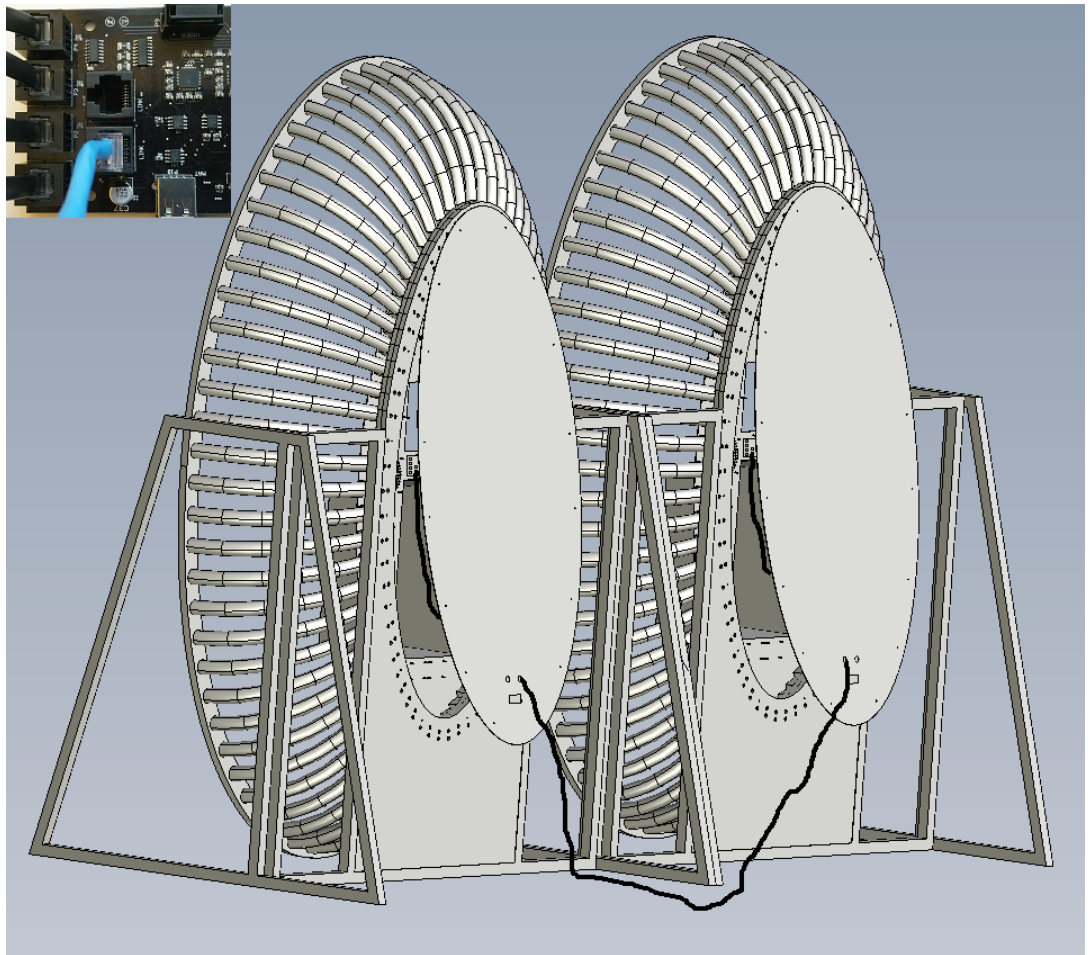

Figure 2
6. If a single stand alone game is being installed, skip to step 7. If two games are to be linked together: Remove all but the top two screws on the back panels. Loosen the top two screws on both games a couple of turns. Then feed one supplied linking cable (Cat 5 RJ45 patch cord) through the back panel holes and attach one end to each main logic port labeled "LINK". See Figure 2. Once connected, reinstall all back panel screws being careful not to over tighten.